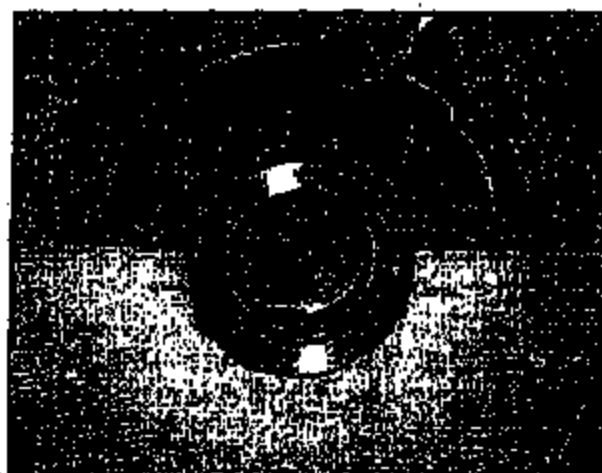

Fig. 5: Semi-Fluid Grease Top Off Procedure
With the hub supported, before installing the outer bearing cone, begin filling from the bottom of the hub cavity. Top-off by placing the pump nozzle above the spindle, and continue pumping grease into the hub cavity. (See Figure 5.)
NOTE: A template may be used to hold the lubricant in place while filling the hub cavity. (See Figures 5 and 5C.)
7. While maintaining proper support to the wheel-end or hub, visually check lube level. In a semi-fluid grease system, if the lubricant flows out of the hub cavity, the hub cavity should be refilled to the 3 o'clock and 9 o'clock level. This represents 50 percent hub cavity fill. (See Figures 5 and 5A.)